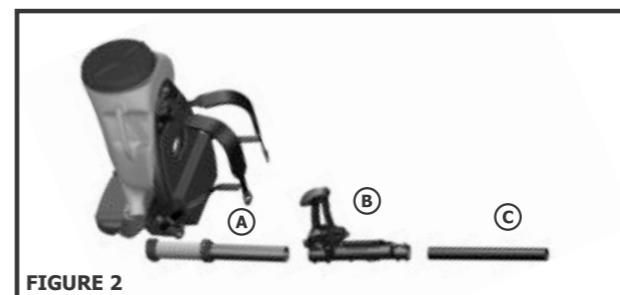

FIGURE 2
Fit the three components as shown in Figure 2: hose with discharge tube (A) + manual application command (B) + discharge extension tube (C).